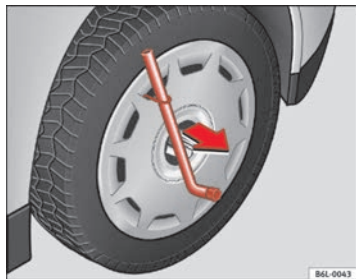

Fig. 131 Remove the complete hub cap
- Remove the wheel cover using the wire hook ⇒ fig. 131.